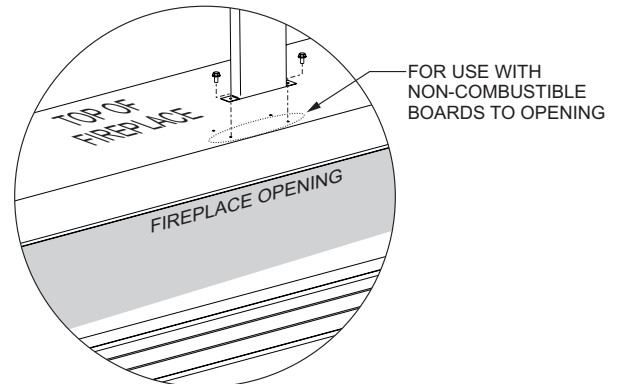

Figure 29 - OPTION 1
- 9a. **OPTION 1** - Secure the brackets to the fireplace top with screws. There are holes located in the top of the fireplace for each standoff bracket. The holes closer to the front edge of the fireplace are for mounting non-combustible board around the opening. (Finishing Option 1). See Figure 29.